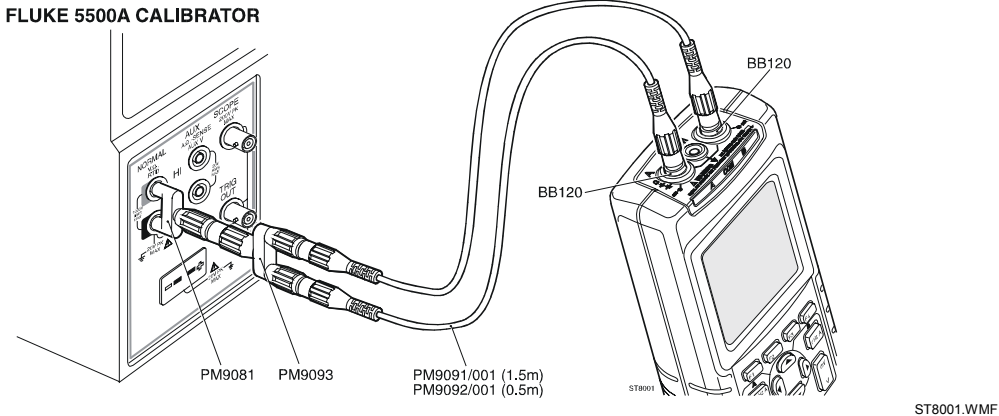

Figure 5-5. Volt Gain Calibration Input Connections <300V
2. Connect the test tool to the 5500A as shown in Figure 5-5.